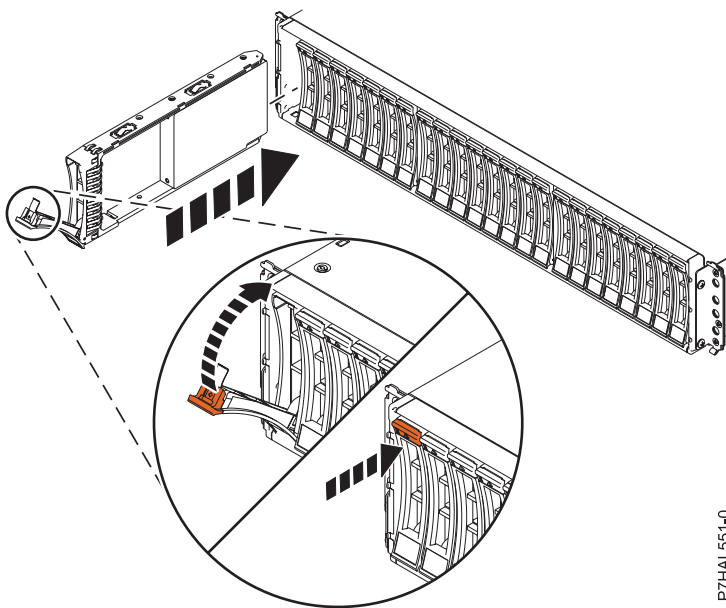

Figure 6. Installing the disk drive in the 5887 disk drive enclosure
1. With the handle in the unlocked position, see Figure 6, support the bottom of the drive as you align it with the guide rails in the expansion unit.